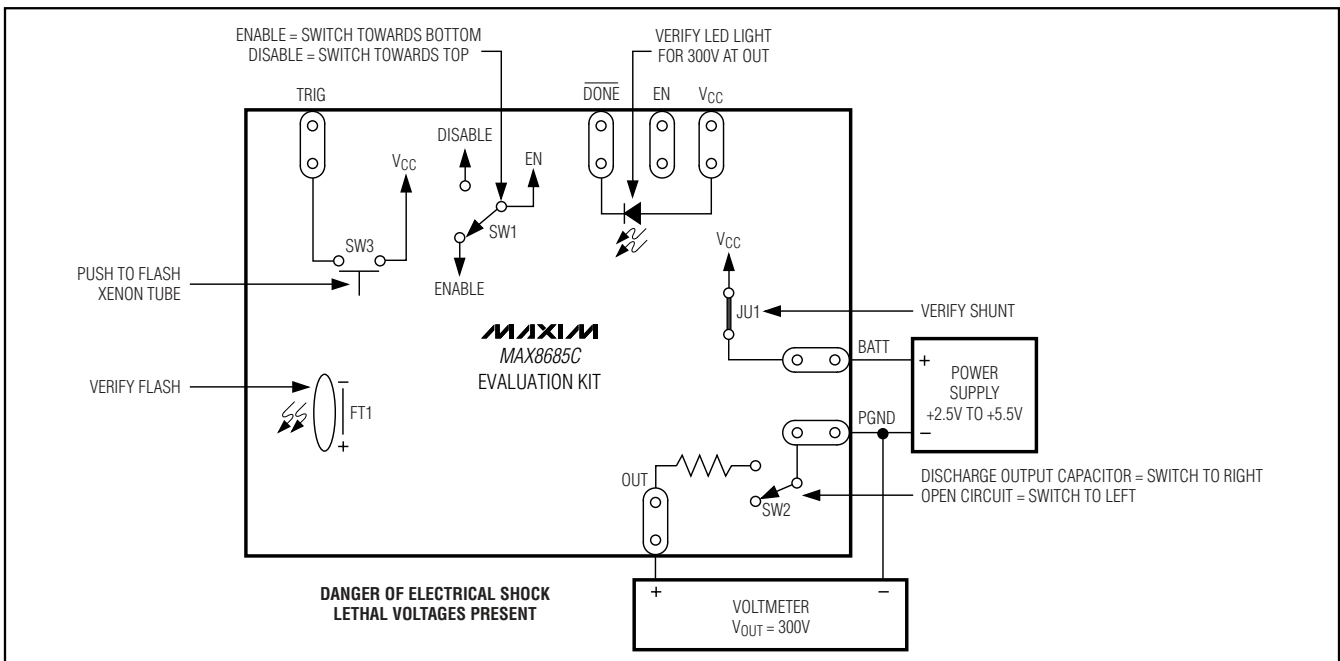

Figure 1. Test Procedure Setup for MAX8685C EV Kit
- 1) Before connecting the EV kit, verify that the output capacitor is discharged. To discharge the output capacitor, set SW2 to the discharge position (Figure 1). Wait at least 30s before proceeding.
- 10) Set SW2 to the open position (Figure 1) to disconnect the discharge resistors.
- 1) Set SW1 to the upward position (Figure 1) to disable the IC.
- 3) Set SW2 to the discharge position (Figure 1).